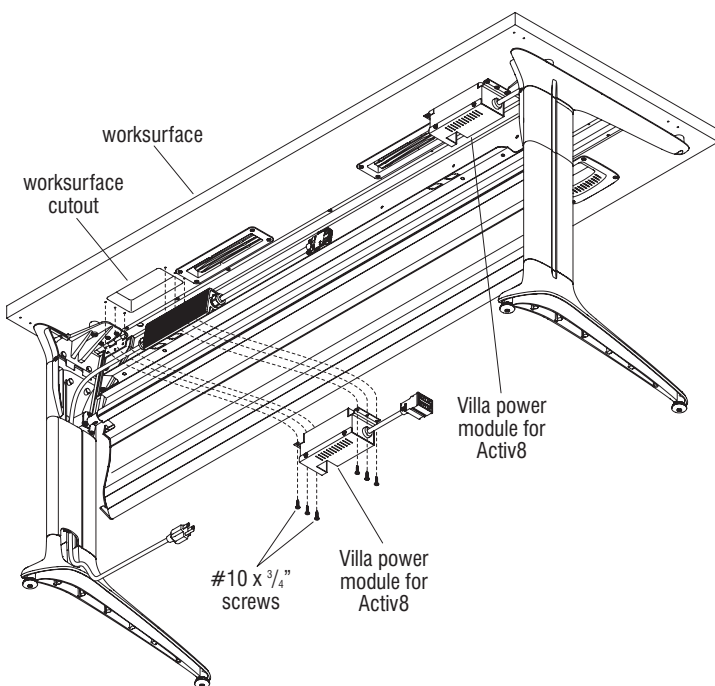

Figure 6
1. Open the wire manager door and swing it down past the leg until it clears the leg door (Figure 6).
2. Position the Villa power module for Activ8 under the worksurface beneath the cutout. Orient the notch in the module to face the user side (Figure 6).
3. Align the six mounting holes on the power module with the six pre-drilled holes in the worksurface, then secure the bracket to the underside of the surface with the six #10 x 3/4" screws provided (Figure 6).